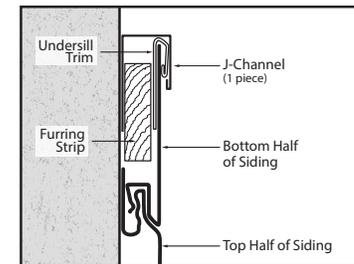

Figure 5.1.3
- Install first partial plank. (Figure 5.1.3)
PRO TIP: If a partial piece of Perspectives is necessary for a balanced layout on the wall, install a 1/2"x1" Furring Strip into the Corner Base or J-Channel to ensure a snug fit of the initial and final pieces of Perspectives. (Figure 5.1.3)